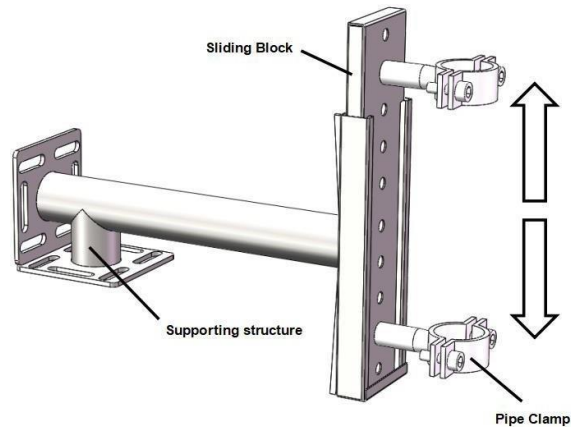

Figure 2 – MA-120-C Submersion Adapter Mounting Bracket
**Submersed Fixed Installation with MA-120-C:** The LT-635 may be installed in a submersed/fixed application using the MA-120-C Submersion Adapter Mounting Bracket (P/N: 50700A11). The LT-635 sensor should be installed as outlined in Figure 2 and 2A. For installation, the MA-120-C bracket should permanently mounted in a fixed position for easy access to the LT-635 sensor and piping. For sensor replacement and maintenance, users only need to lift (vertically/upwards) the sliding block and conduit with the mounted sensor from MA-120-C bracket. Please note the LT-635 outer diameter is  $\frac{3}{4}$  - inch NPT. A  $\frac{3}{4}$  to 1-inch NPT bushing is required for installation.